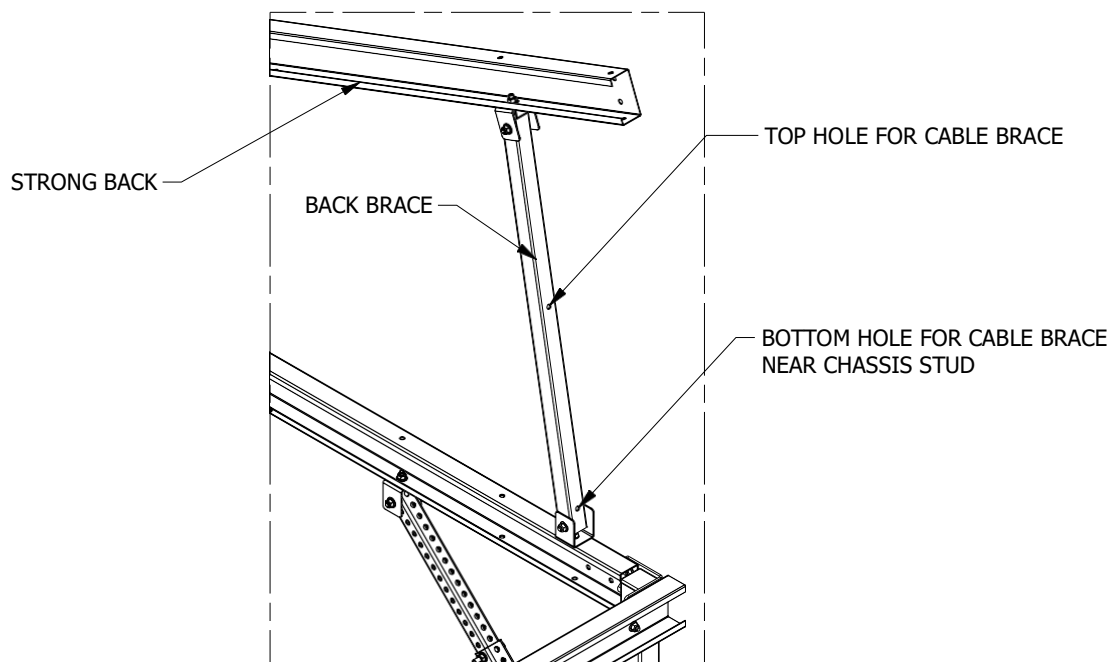

Figure 13: Back Brace Orientation for Cable Brace Attachment.
6. Lift the rear end of the Strong Back and rotate the Back Brace upwards to meet with the Back Brace Bracket on the underside of the Strong Back. Ensure the Back Brace is oriented with the lower hole near the Chassis Stud for proper cable brace assembly. Refer to Figure 13 on next page.